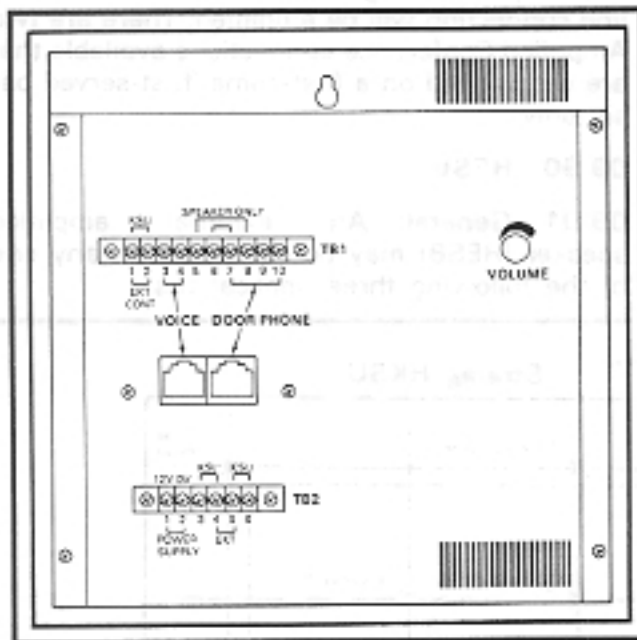

FIGURE 45—HESB BACK PANEL
09.93 Cabling—Loud Ringing Bell Application: Refer to Figure 45 and make the following connections between the back of the HESB and the second modular jack on the left side of the EKT:
09.94 Cabling—Amplified Speaker Application: Refer to Figure 45 and make the following connections on the back of the HESB:
09.95 Cabling—Talkback Amplified Speaker Application: Refer to Figure 45 and make the following connections on the back of the HESB:
These connections can be made to the "DOOR PHONE" modular connector (instead of TB1), as shown in Figure 45.